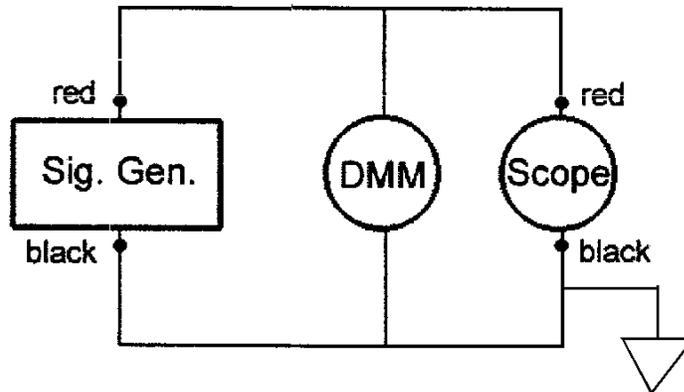

Fig. 2
1. Replace the battery with the signal generator as in the circuit of Fig. 2. Set the signal generator for a 1000Hz sine wave about  $1V_{\text{rms}}$  on the DMM (AC)
4. RMS: Set the sig. gen. DC offset accurately to zero, watching the DMM (DC). Change the DMM to AC, then determine the peak-to-peak voltage from your scope trace and compare with the reading from the DMM.